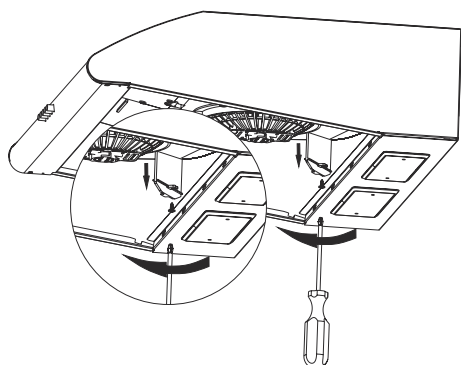

Fig. 6
- ➔ Then remove the long throttle on the motor case (Fig. 6).